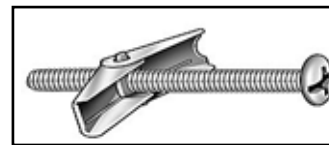

Figure 4.4 3/16 Toggle-Bolt Anchor
- Every mounting hole that does not align with a structural framing member, a wall board toggle-bolt anchor must be used. See Figure 4.4.